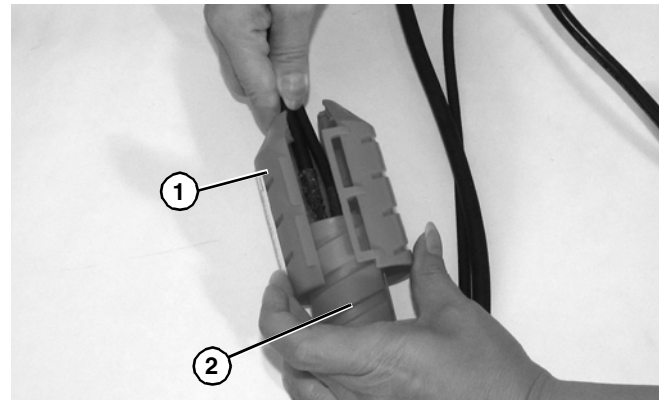

Figure 38
2. Remove outer cord cover (Figure 38, item 1) from inner cord cover (Figure 38, item 2).